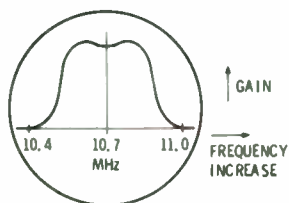

Figure 5 — Alignment response curve showing change in amplification (vertical) with change in frequency (horizontal).
swinging audio sinewave used to modulate the RF carrier. To clarify, let us suppose that positive-going voltage causes the trace to move to the right while negative-going voltage causes it to move to the left. Let us also suppose that positive-going audio voltage causes the RF signal in the generator to move *up* in frequency while negative-going audio causes a downward shift in carrier frequency. Figure 5 relates all these movements of scope trace and frequency in a graphic manner, showing where the trace will be for a given frequency (RF) and where the frequency will be at every point in the audio-modulating cycle.